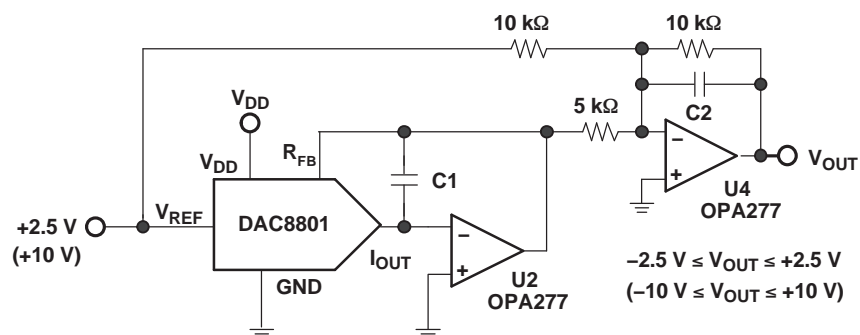

Figure 22. Bipolar Output Circuit
Some applications require full 4-quadrant multiplying capabilities or bipolar output swing. As shown in Figure 22, external op amp U4 is added as a summing amp and has a gain of 2X that widens the output span to 5 V. A 4-quadrant multiplying circuit is implemented by using a 2.5-V offset of the reference voltage to bias U4. According to the circuit transfer equation given in Equation 2, input data (D) from code 0 to full scale produces output voltages of $V_{OUT} = -2.5 \text{ V}$ to $V_{OUT} = 2.5 \text{ V}$.